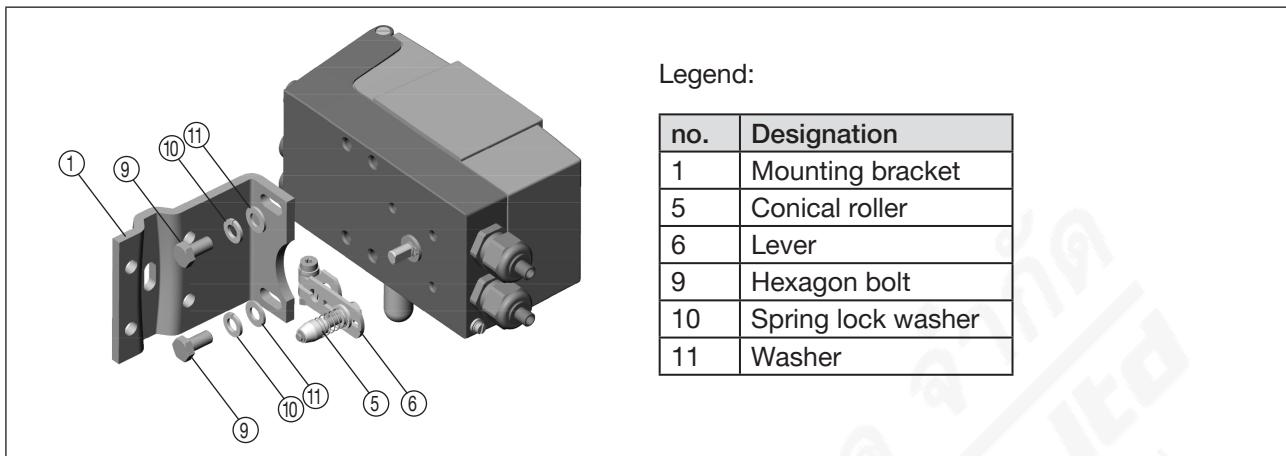

Figure 19: Attaching the mounting bracket to the SideControl Type 8635
→ Attach the mounting bracket ① to the rear of the SideControl Type 8635 using the hexagon bolts ⑨, the spring lock washers ⑩ and the washers ⑪ (see "Figure 19").